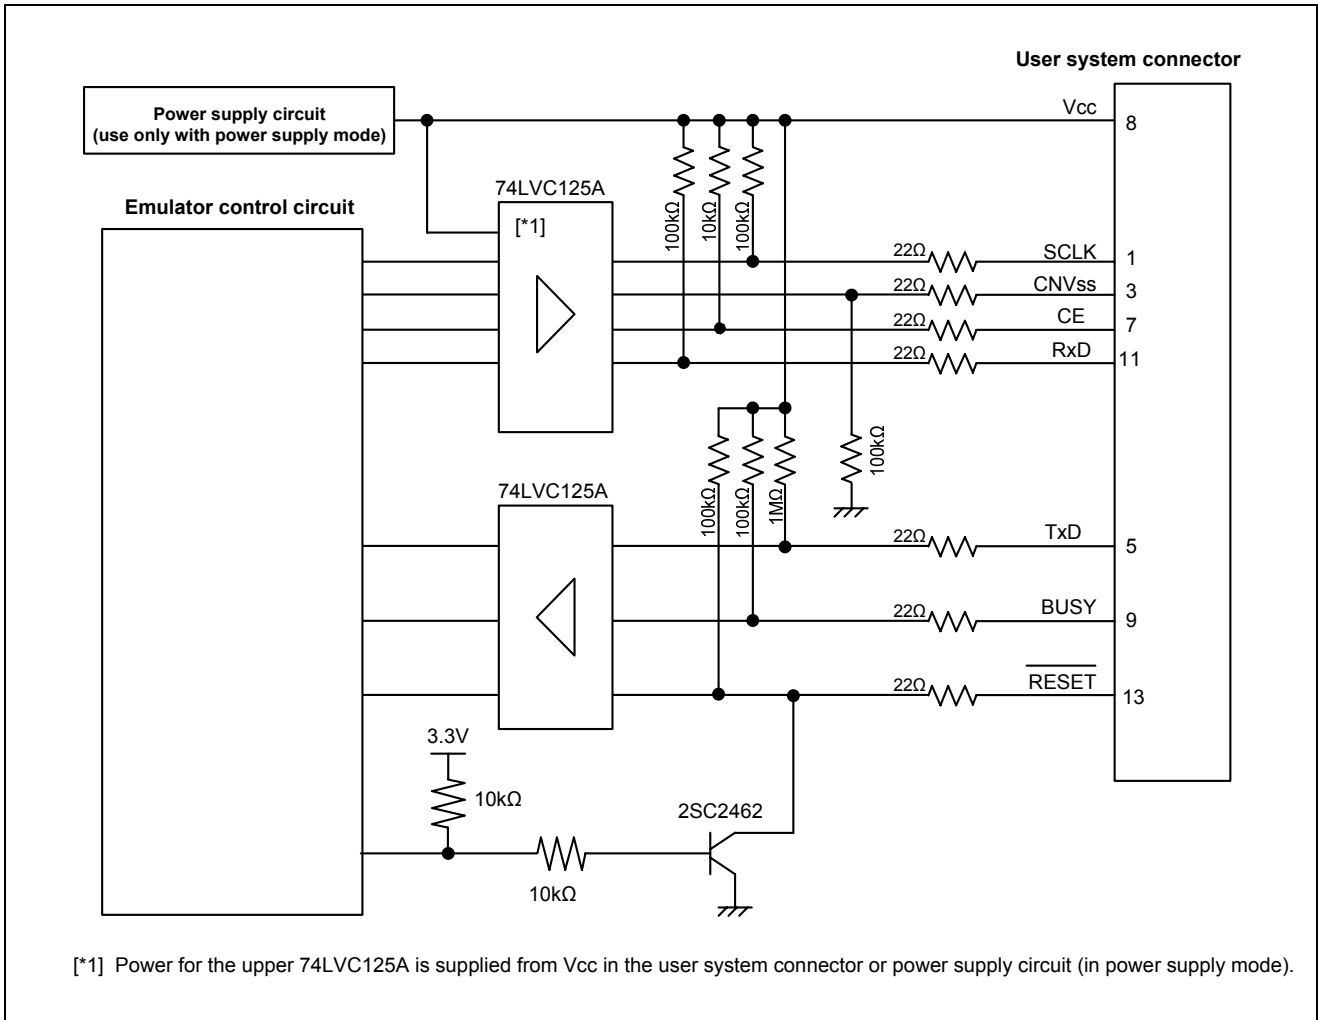

Figure 5.6 Interface Circuit Inside the E8 Emulator (For Reference)
1. Pins P64, P65, P66 and P67 are used exclusively by the E8 emulator. Connect the E8 emulator to the MCU pins. Connect pins P65, P66 and P67 to the E8 emulator after pulling up the MCU pins. Pull up or down on P64 according to the MCU pin state after disconnecting the E8 emulator. P64 may be in a Hiz state while the E8 emulator is active. Therefore, set the pin resistance value so the voltage cannot be at the midpoint potential, depending on the voltage dividing of the resistance inside the E8 emulator (Figure 5.6).
P15 may be in a Hiz state while the E8 emulator is active. Therefore, set the pin resistance value so the voltage cannot be at the midpoint potential, depending on the voltage dividing of the resistance inside the E8 emulator (Figure 5.6).
9. Figure 5.6 shows the interface circuit in the E8 emulator. Use this figure as a reference when determining the pull-up resistance value.